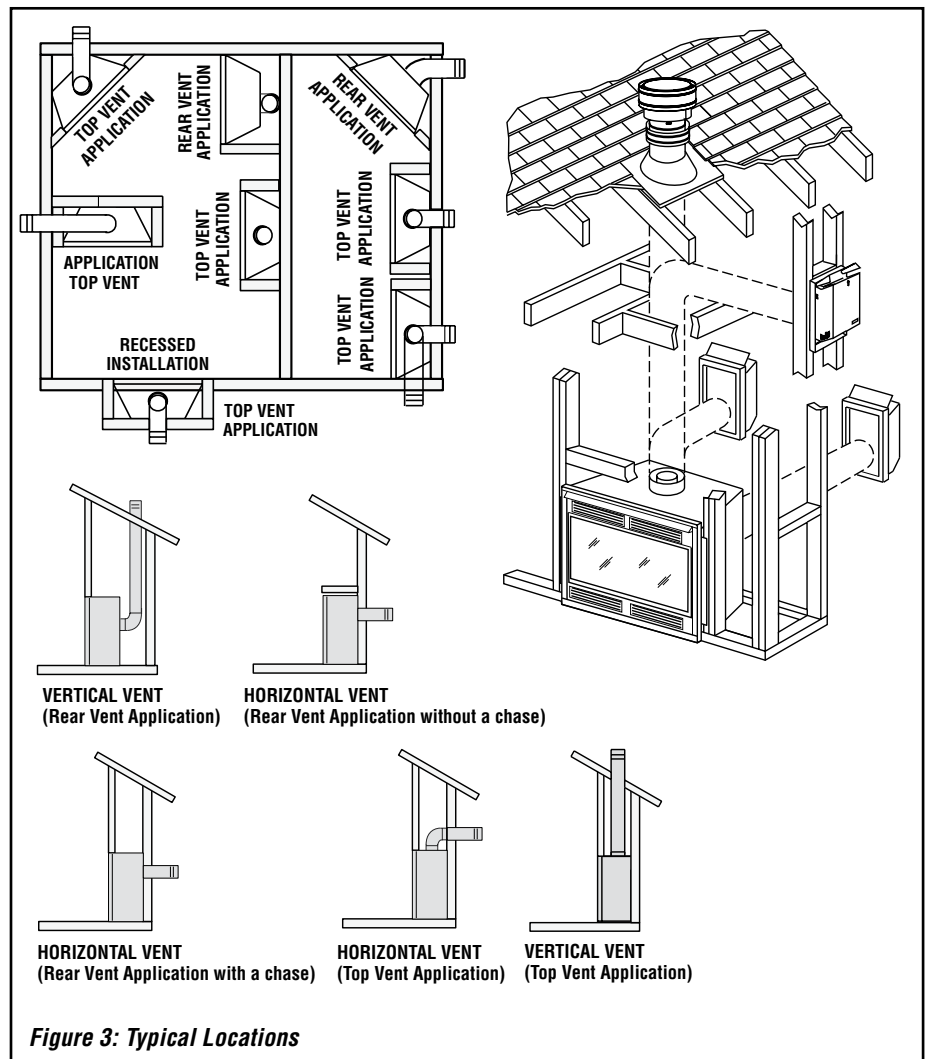

Figure 3: Typical Locations
**Due to high temperatures, the appliance should be located out of traffic and away from furniture and draperies (Figure 3).**
**En raison des températures élevées, l'appareil devrait être installé dans un endroit où il y a peu de circulation et loin du mobilier et des tentures (Figure 3).**
The appliance is approved with zero clearance to combustible materials on all sides (as detailed in *Table 5*), with the following exception: **When the unit is installed with one side flush with a wall, the wall on the other side of the unit must not extend beyond the front edge of the unit.** In addition, when the unit is recessed, the side walls surrounding the unit must not extend beyond the front edge of the unit (see *Figure 3*).